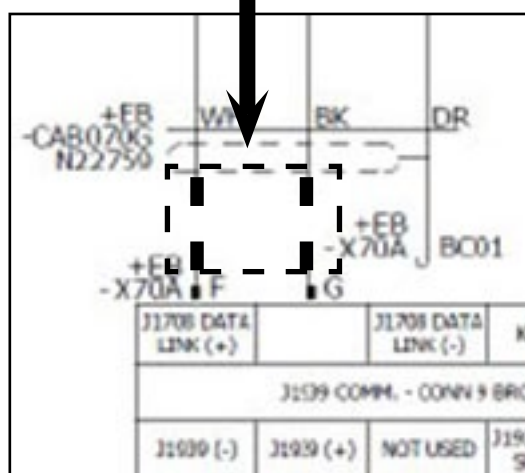

Figure 10 - Location of the +EB-X70A Connector on the Engine Control Module
- 1.26. Cut the +EB-X70A connector wires located at positions F and G 3 in. (75 mm) from the connector. See Figure 10.